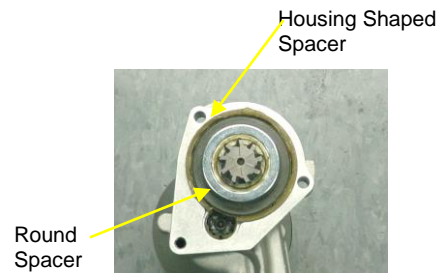

Figure 1
**Spacers installation** Remove rectangular mounting block and place the 2 spacers as shown on figure 1 and re-assemble mounting block